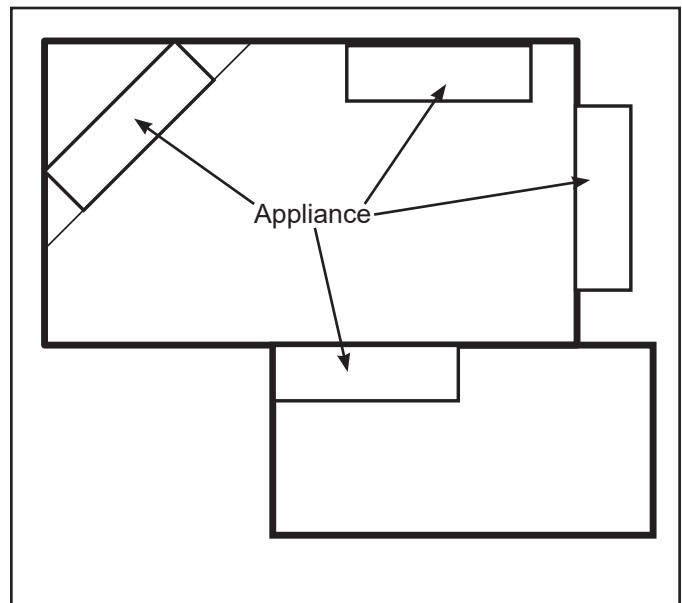

Figure 2.2
1. Position appliance in desired location. Refer to the *Appliance Location* (page 7, Figure 2.2) and *Clearances and Height Requirements* (page 12, Figures 3.6 and 3.7) sections and *Appliance and Framing Dimensions* (page 10 and 11, Figure 3.4 and 3.5) illustration found in this manual.
- Minimize modifications to existing construction. Refer to Figure 2.2 below for location suggestions.